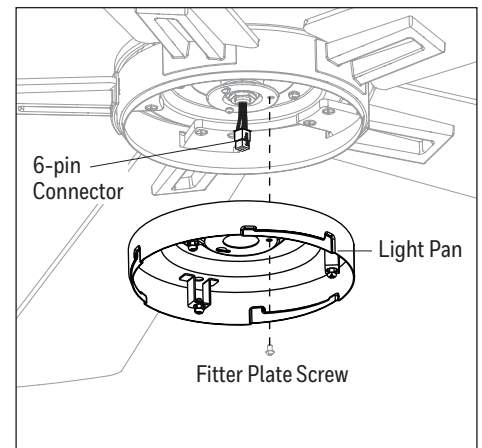

Figure 5.6
- Remove one of the three fitter plate screws preassembled to the fitter plate and loosen the other two but do not remove. Feed the 6-pin connector through the center hole in the light pan. Align the keyhole slots in the light pan with the loosened screws in the fitter plate. Turn light pan clockwise and replace the previously removed fitter plate screw. Tighten all screws (Figure 5.6).